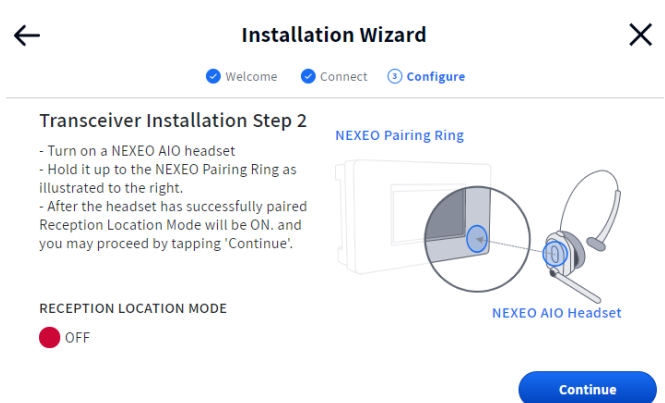
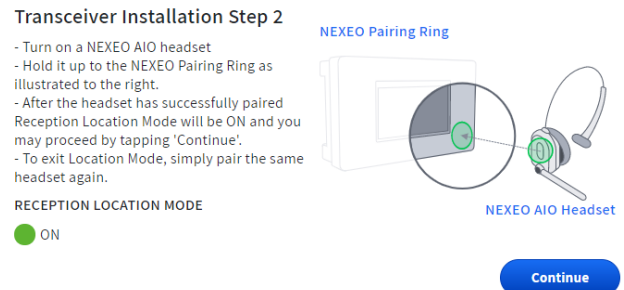
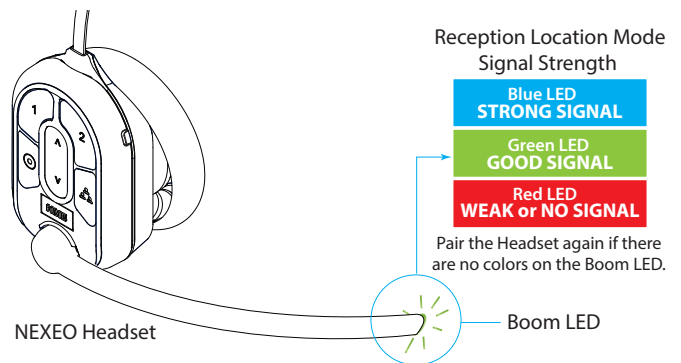

Fig. 6
Fig. 7
Fig. 8
7. **Critical Step:** At the Configure stage of the Installation Wizard, the Transceiver Installation Step 2 screen (see Fig. 6) prompts you to pair a headset, which switches it to Reception Location Mode once paired (see Fig. 7). The Reception Location Mode indicator turns from **OFF** to **ON** (Fig. 7). Tap “Continue” to move to Transceiver Installation Step 3. You will need to walk all areas of the store where the headset will be used to ensure a good signal. The Boom LED at the tip of the Headset microphone flashes different colors to indicate areas with strong or weak reception (The NEXEO screen displays this color-coded range which is also shown here in Fig. 8). Depending on the results, you may have to reposition the Remote Transceiver before finding the optimal location.